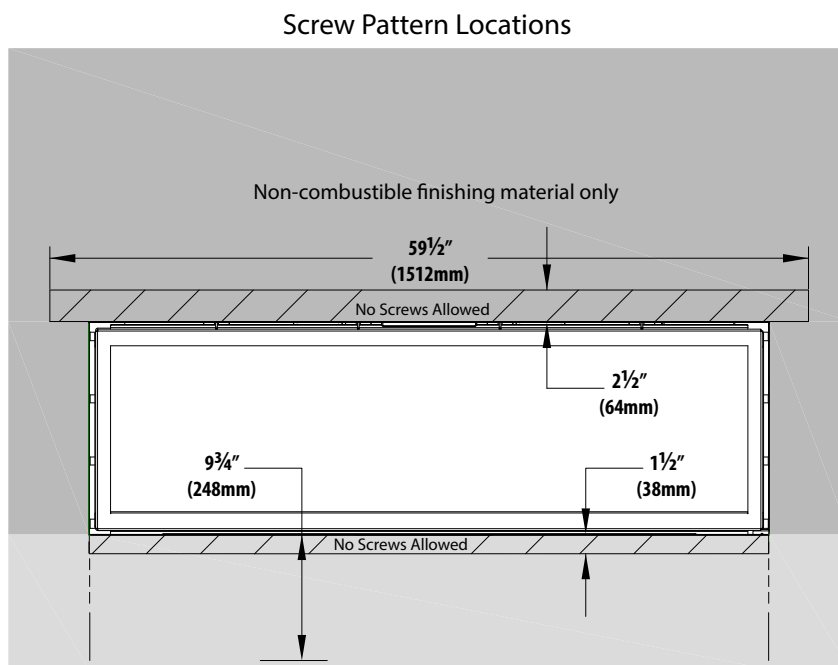

Figure 4.6, Minimum Non-Combustible Finishing Dimensions Screw Locations
- It is acceptable to pre-drill holes and to use self-tapping screws prior to attaching the non-combustible material to the top and sides of the fireplace face. Refer to Figure 4.6 on page 39. Screws can only penetrate the fireplace outer shell up to 1/2" (13mm) in the allowed areas.
- It is acceptable to pre-drill holes and to use self-tapping screws prior to attach the non-combustible material to the top and sides of the fireplace face, screws can only penetrate the fireplace outer shell up to 1/2" (13mm) in the allowed areas. See Figure 4.6 on page 39.
- This combustible material goes over any required non-combustible materials as shown in Figure 4.6 on page 39.